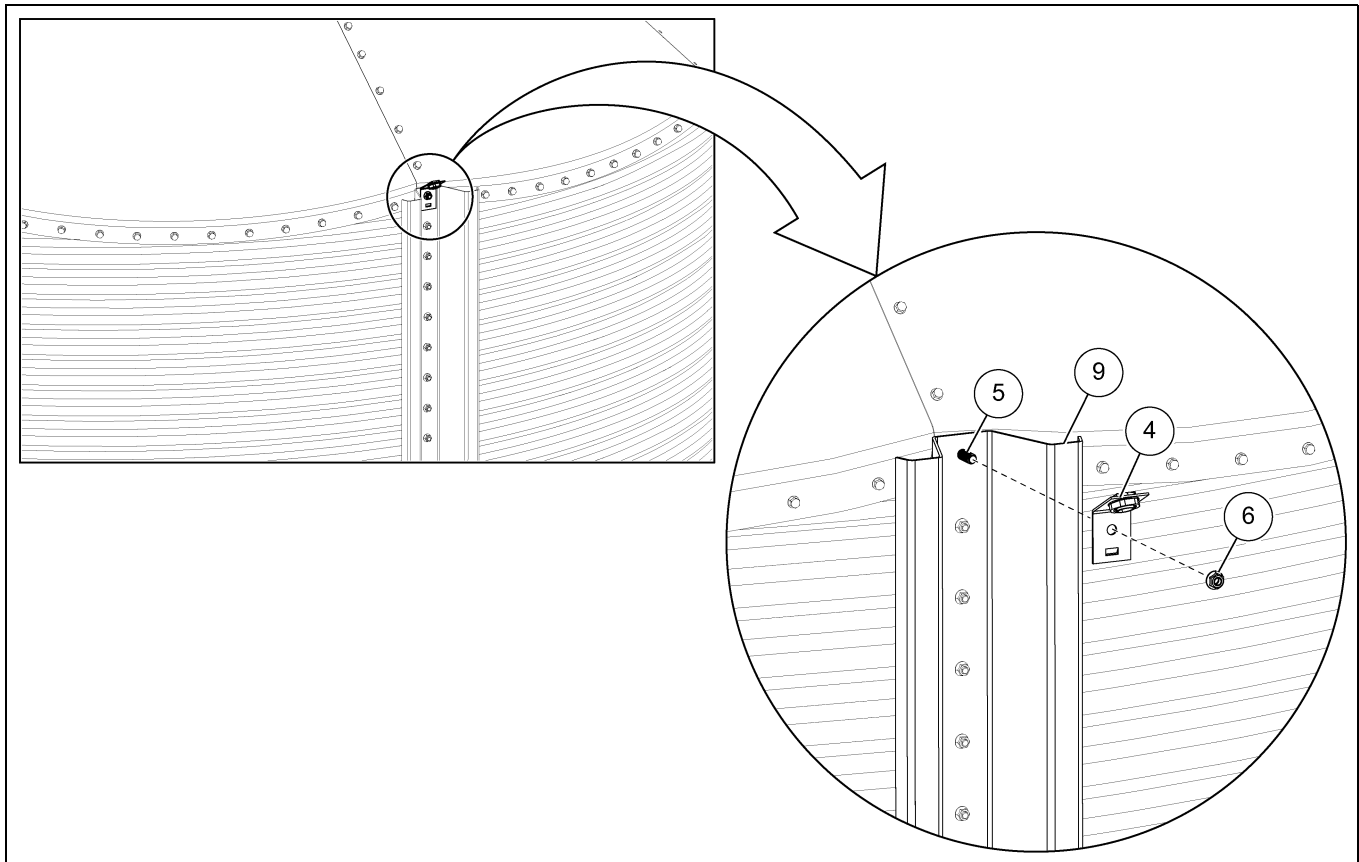

Figure 1
1. Install the roof eave bracket (4) to the top hole of the leg (9) using existing 5/16" flange bolt (5) and 5/16" flange nut (6). (See Figure 1.)